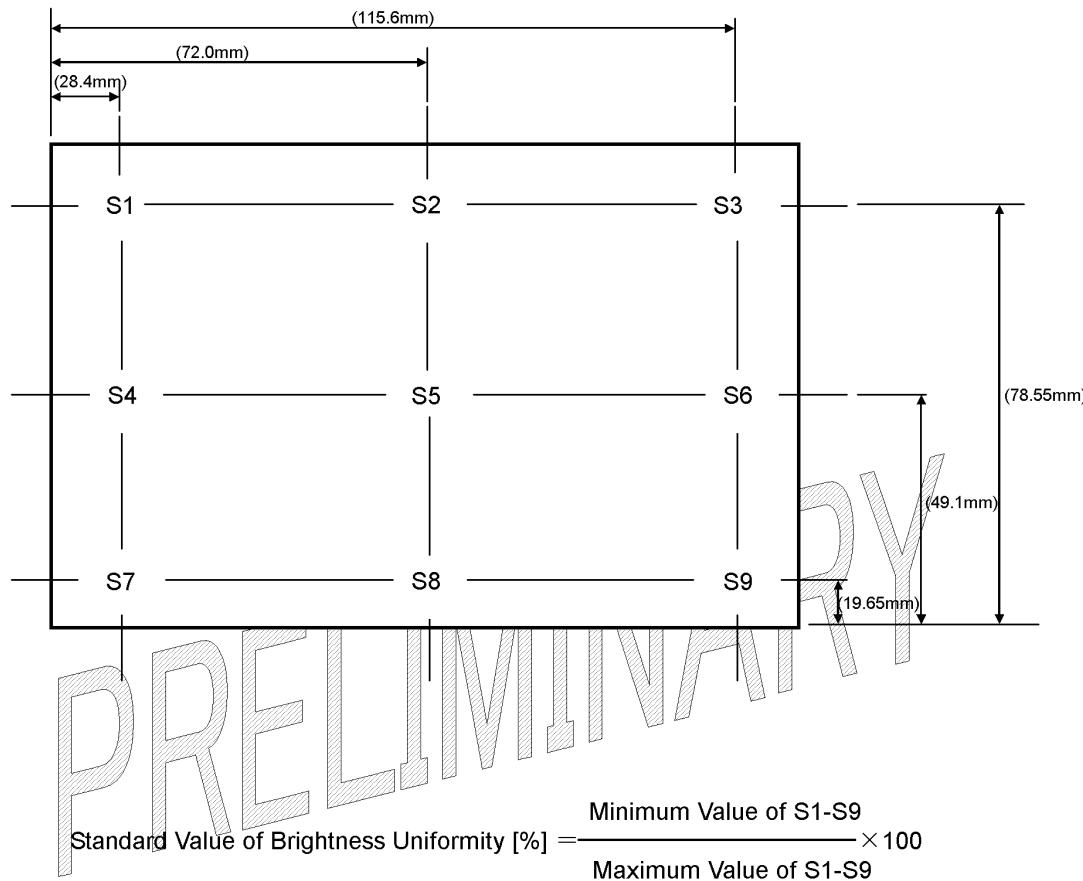

Fig. 2
(3) Method of Measuring
- ◆ Definition of Brightness Uniformity (Fig.2)